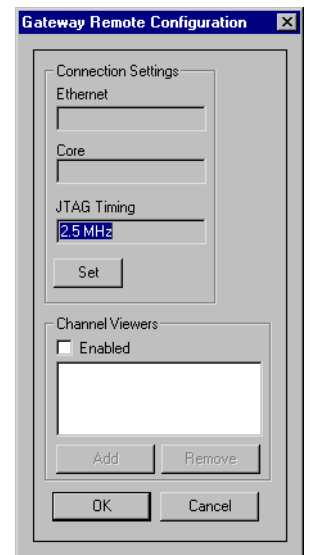

Figure 3 Gateway Remote Configuration panel
5. Click **Configure...** in the Debugger Configuration screen. The Gateway Remote Configuration panel is displayed (Figure 3).